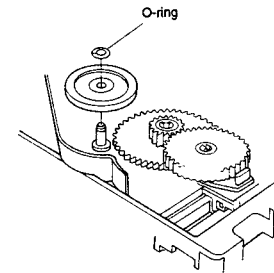

Figure 40
(3) Insert the pulley into the shaft, and fix it with an O-ring as shown in Figure 40.